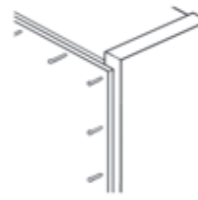

Fig 21 Securing the backing sheet to the bookcase
- Using 20mm bullet head nails, carefully fix the backing sheet into place by nailing into the shelves and sides (see Fig 21). You must ensure that your nails are aligned correctly to avoid missing the sides.